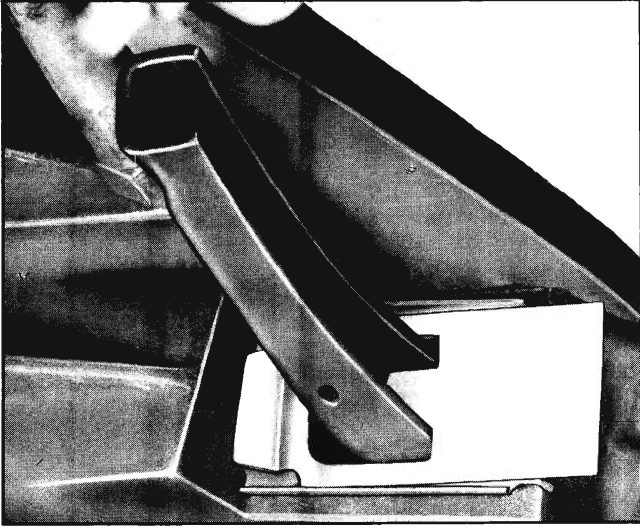

Fig. 6D-13 Dust Shields Installed
7. Install dust shields together (with a light coat of wheel bearing grease between them) as shown in Fig. 6D-13.